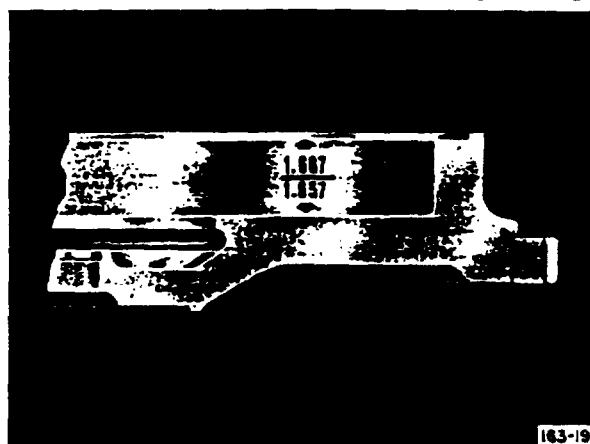

Figure 4-23. Flywheel Rubbing Surface-to-Clutch Cover Bolting Surface Dimension
8. If flywheel is warped or heat checked and surface is refinished, maintain dimensions shown in Figure 4-23 between disc surface and bolting face for proper release lever adjustment. No more than 0.070 inch maximum may be removed by grinding.